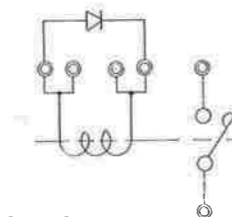

Fig. 1 Diode only
1. When a diode only is added as a surge voltage suppressing device (see Fig. 1), the reset time of the DC contactor will become longer and the reset speed slower. This will slow the opening speed of the contact, thus affecting adversely the breaking performance and life. When you use a diode, therefore, connect a resistance in series with the diode. (See Fig. 2.)